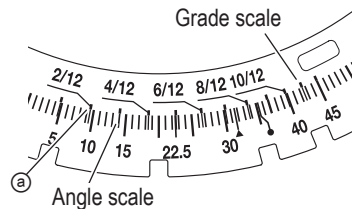

Fig. 31
- (1) Unlock the miter table by lifting up on the miter lock handle.
- (2) While lightly pressing down on the positive stop lever until it engages the detent lever, grasp the miter lock handle and rotate the table left or right to the desired angle.
- (3) Once the desired miter angle is achieved, press down on the miter lock handle to secure the table into position.
- (4) If the desired miter angle is one of the nine positive stops noted below, please see the Miter detent lever section on page 20.
- (5) Use the LED light and position the workpiece on the table for pre-alignment of your cut.
- (6) The miter scale (Fig. 31) indicates both the cutting angle on the angle scale and the gradient on the grade scale.
- (8) Therefore, to cut a workpiece at a grade of 2/12, set the indicator to position ③ as indicated in Fig. 31.